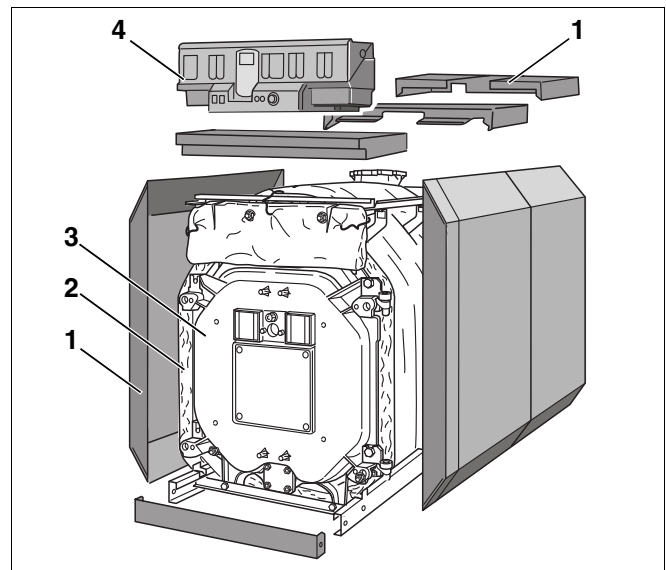
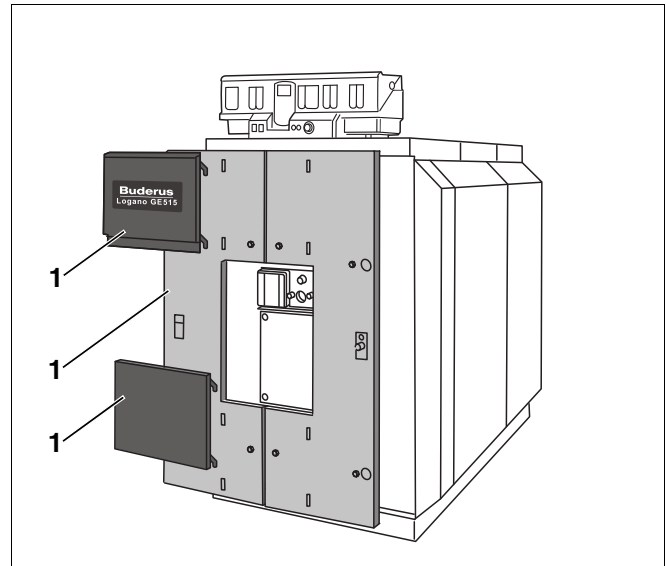

Fig. 1 Logano GE515 oil- and gas-fired special boiler
Fig. 2 Logano GE515 oil- and gas-fired special boiler
- Boiler block (Fig. 1, **item 3**).
- Boiler shell (casing, Fig. 1 and Fig. 2, **item 1**), thermal insulation (Fig. 1, **item 2**).
- Control device (Fig. 1, **item 4**).